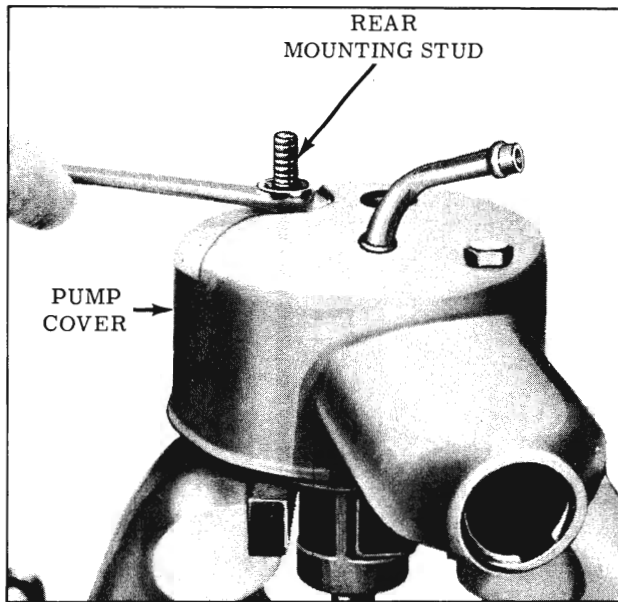

Fig. 4-231 Removing Reservoir
2. Remove pump rear mounting studs. (Fig. 4-231)